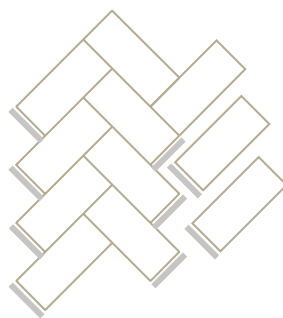

Figure 6: Pushing the planks closely together. Inserting the loose tongue in the end groove.
3. Push a loose tongue into the end groove on all the glued-down planks and into the end groove of the new planks. All joints between planks must have a tongue/groove joint. Do not glue the tongue. Discard any tongues that are too thin or too tight. See Figure 6.
4. Glue down the next row. Set the planks into the glue as close to the adjacent planks as possible, pushing the planks firmly down and against the adjacent planks or the temporary spacing blocks to prevent glue from getting into the tongue/groove joint. See Figure 6.